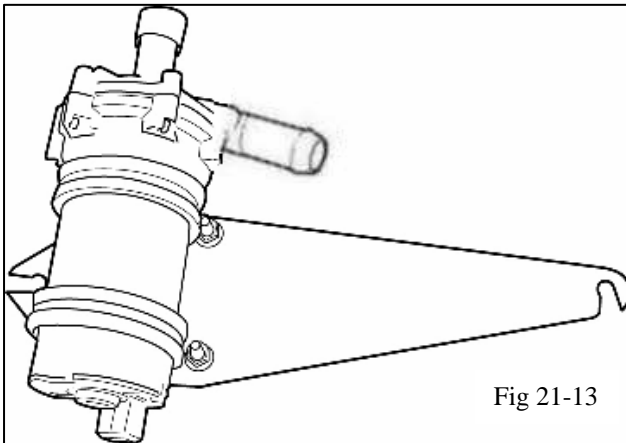

Fig 21-13
- (l) Mount the intercooler pump (D1) to the pump mounting bracket (A3) with 2 #36 Adel Clamps (A7) and 2 M6 nuts (A12) (Fig 21-13). Once the clamps and nuts are tight, the pump outlet should be at approximately a 15° angle to the bracket. **Torque: 15 Nm (10 ft lbf)**